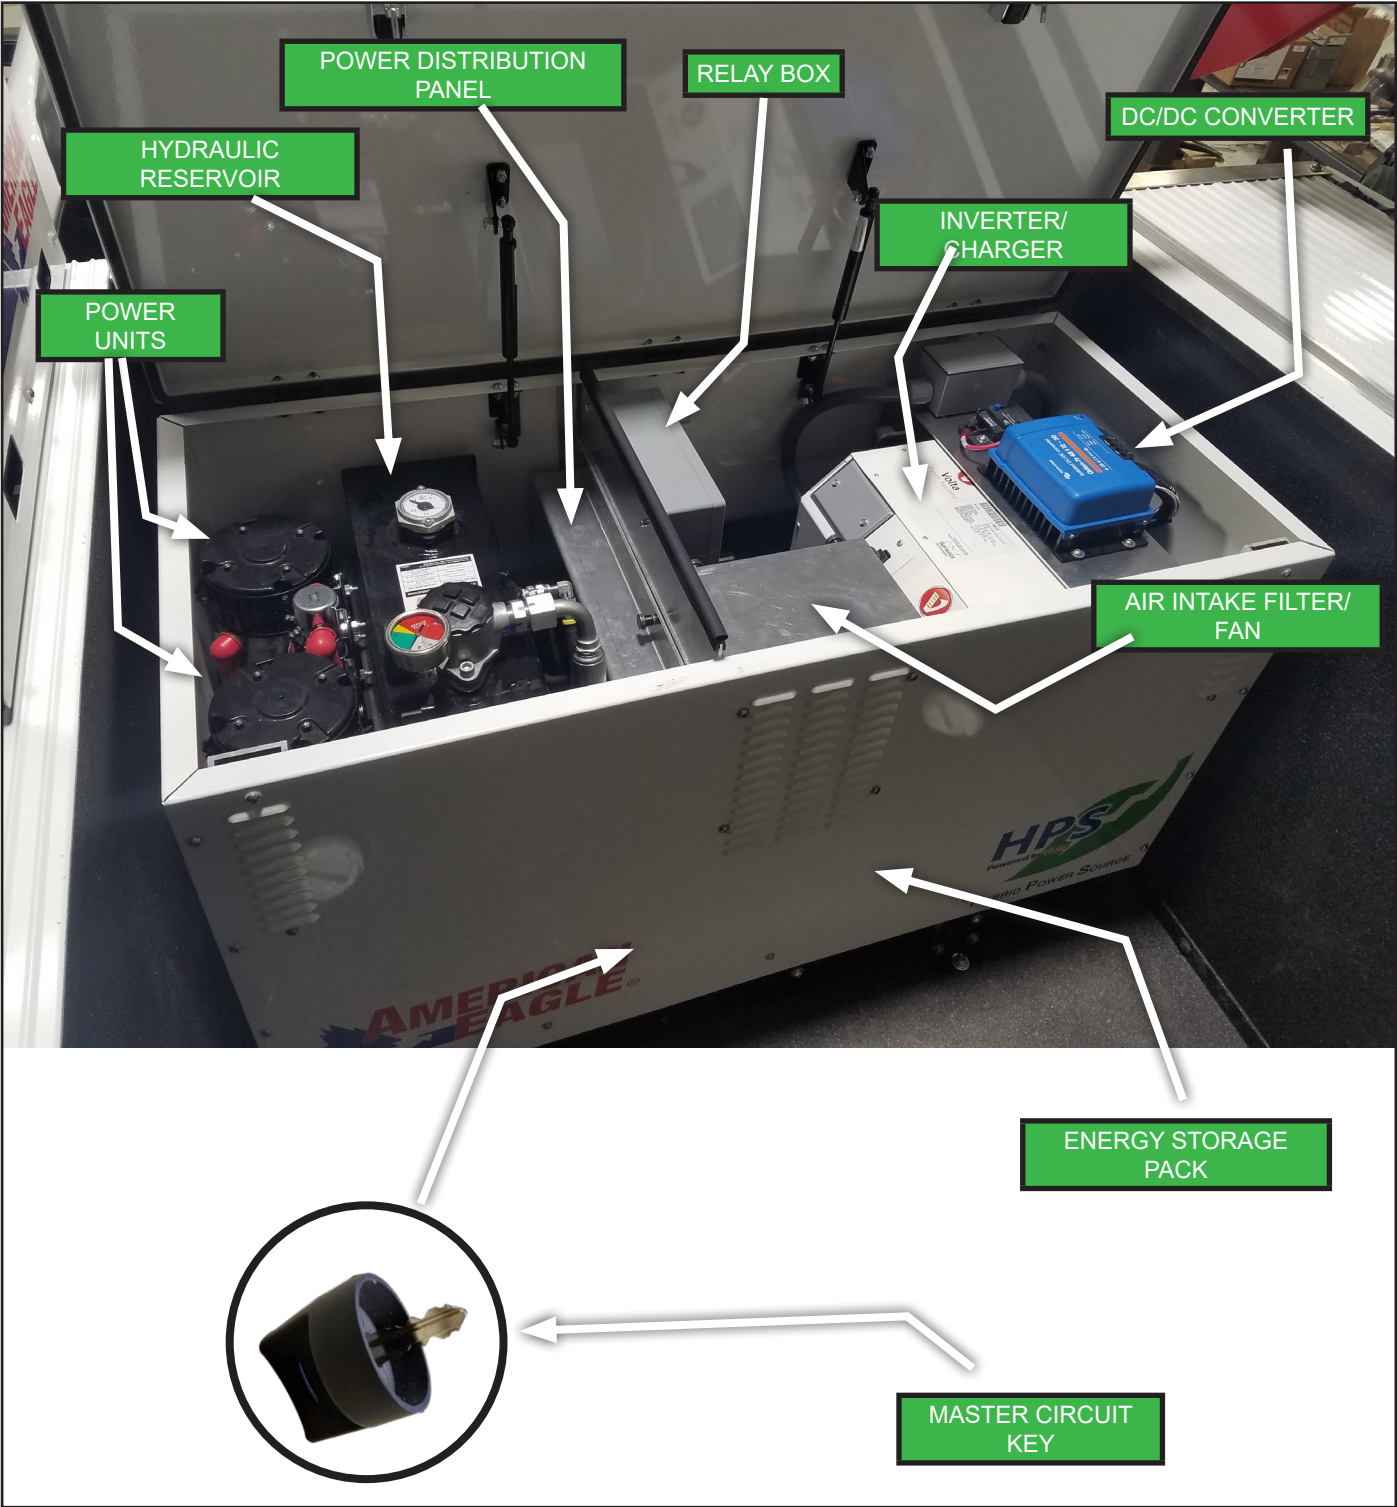

Figure 02: HPS Cabinet Components
**Energy Storage Pack - (Figure 02)** The energy storage pack acts much like a large, long lasting battery.
**DC/DC Converter - (Figure 02)** The 58V supply from the energy storage pack is converted to 12V to run the system electronics of the vehicle.
**110V Inverter/Charger - (Figure 02)** The inverter also supplies 110V output for use at the various power outlet ports.
**Hydraulic Reservoir and Power Units - (Figure 02)** The dual power units and hydraulic reservoir act together like a traditional PTO system with out the need to be running an engine.
**Power Distribution Panel - (Figure 02)** Fuses on the power distribution panel are accessible after you remove the cover. Before you remove the panel to inspect or replace fuses, turn off the HPS system with the control panel in the cab and disable the energy storage pack by turning off and removing the Master Circuit Key.
**Air Intake Filter/Fan - (Figure 02)** To keep the sensitive components in the unit clean and cool, a fresh air filtered intake fan provides the compartment pressurized with cool air. See figures 11 and 13 about the fan, filter, and its quick connect harness connection.
**Master Circuit Key - (Figure 02)** The energy storage pack in your HPS unit is equipped with a turn key used to disable the output of the pack. It can be used for lockout purposes during maintenance procedures. Unless removed for the need to disable the energy pack, the key should remain installed in the ON position. For more information about the Master Circuit Key, see Figure 15.